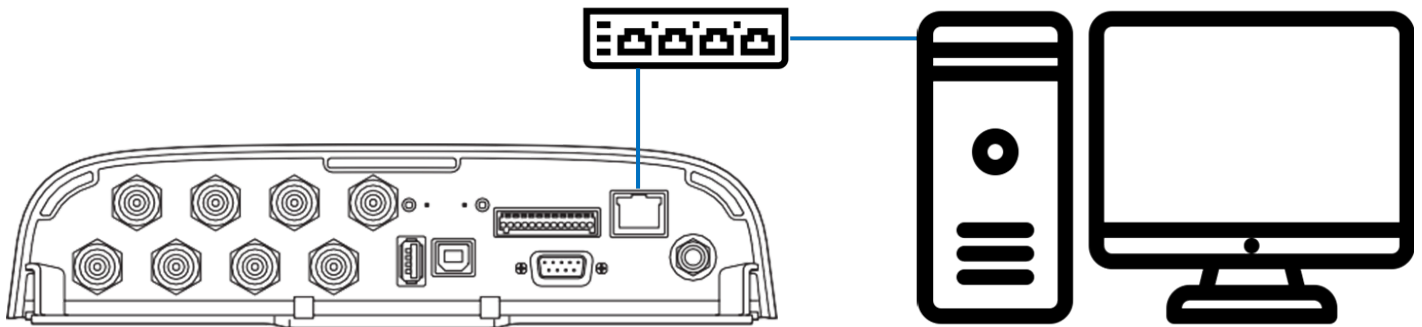

Figure 3.2 Connecting the FR900 Reader to the Ethernet Network
2. Use a USB A-B cable to connect your PC's usb port on the Reader, as shown in Figure 3.2